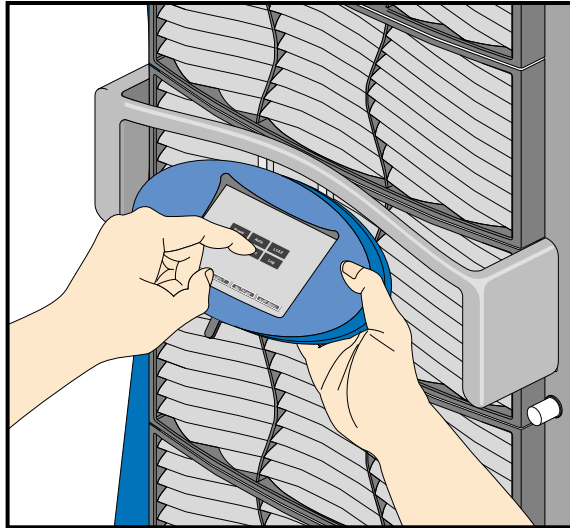

Figure 4-6 L2 Controller Touch Display
3. Locate the L2 controller touch display on the front of the rack system, (see Figure 4-6). It should be ready for input.